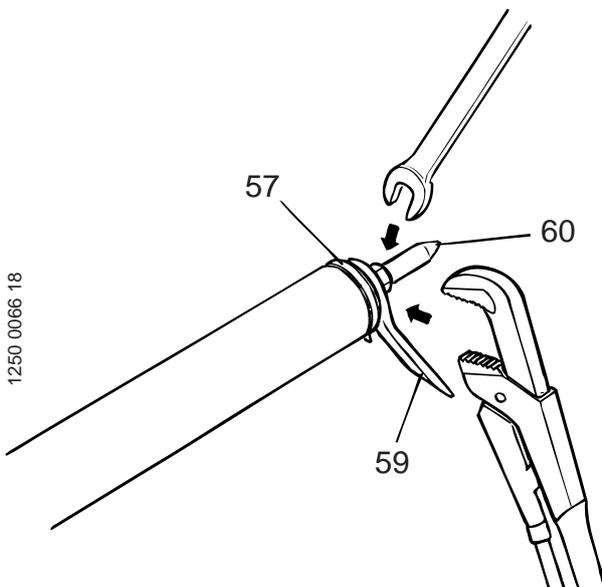

Fig. 4
1. Clamp the cylinder barrel (64) in a machine clamp or in a vice fitted with soft jaw linings or a V-block.
2. Remove the spike (60) using a 28 mm open-ended spanner, and remove the support (59) with its cylindrical pin (58). See fig. 4.
3. Remove the end piece (57) complete with damper (56) using a pipe wrench. See fig. 4.